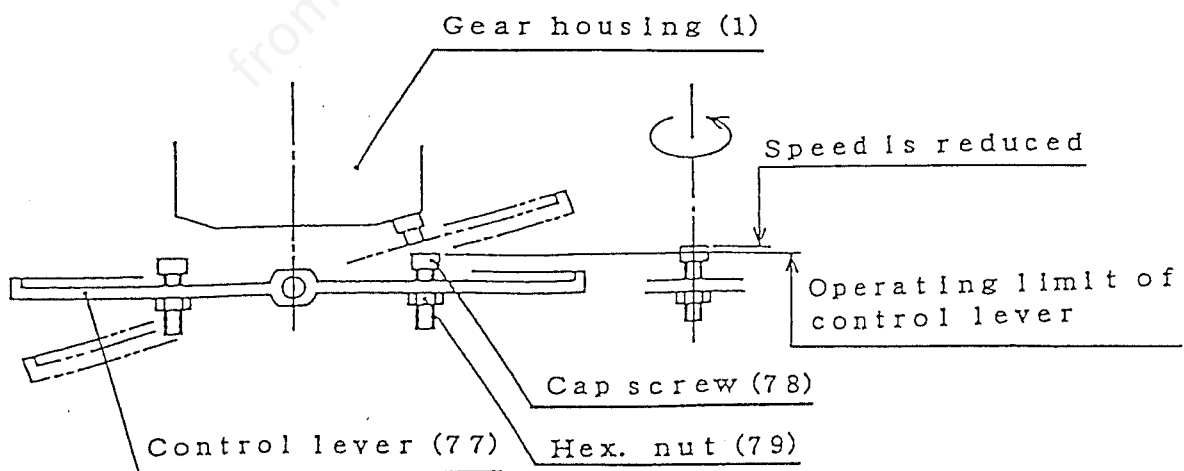

Fig. 9
9. Adjustment of Speed and Operating Limit of Control Lever (See Figure 9)